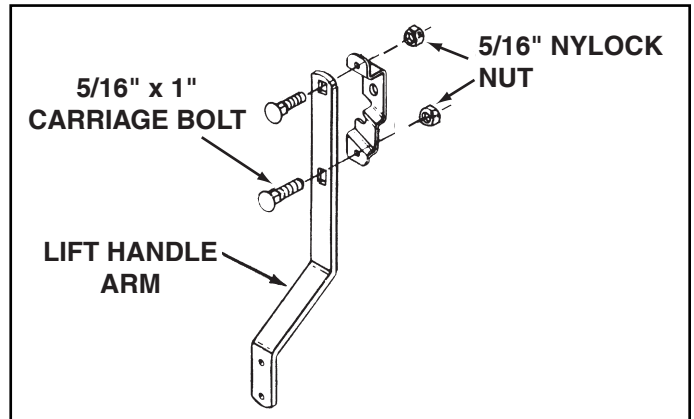

FIGURE 11
16. Assemble handle lock bracket to lift handle arm using two 5/16" x 1" carriage bolts and 5/16" nylock hex nuts. See figure 11.